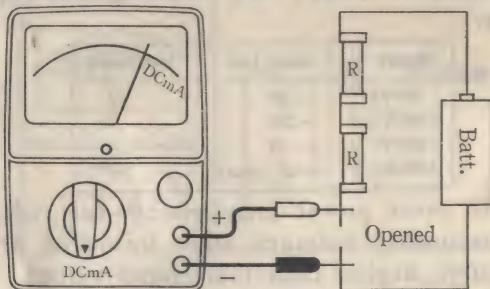

Fig. 4 - DC Current Measurement.
c. Zero adjustment. Before taking a measurement, the test leads connected to the meter are shorted together. (Fig. 4, dotted line)